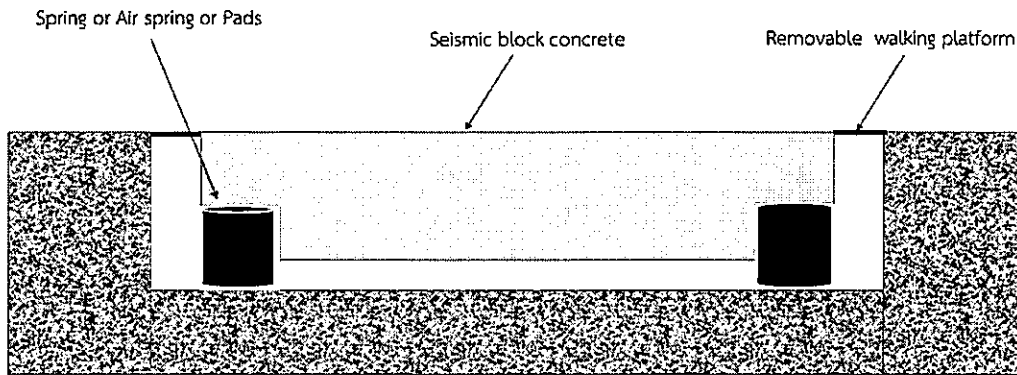

Figure 8: Example of an installation of Foundation Isolator
3.3 In case of installation which requires maintenance area (example in Figure 8) , a removable walking platform must be installed when there is no need for access to maintenance area. However, such installation may be different to Figure 8 if it is more appropriate or effective.